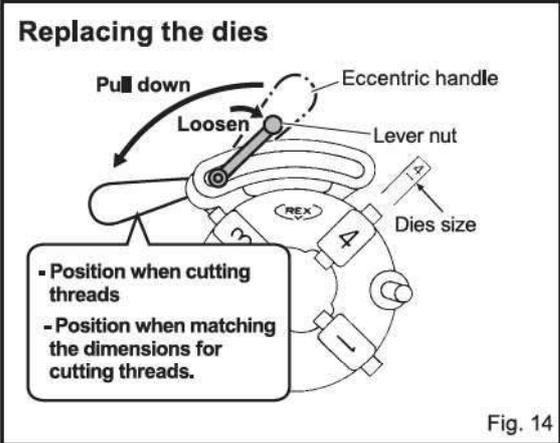

Fig. 14
- (1) Remove the die head.
- (2) Lower the die head and replace dies No.3 and No.4 in the same way. Insert each die until the notch is engaged. (Fig.14)
- (3) Raise the die head and insert replacement dies No.1 and No.2 until the notch is engaged.
- (4) Pull the eccentric handle back in the opposite direction, left of the arrow. The dies will move towards the centre of die head.
- (5) Adjust according to your desired thread cutting size (see 'Threading').